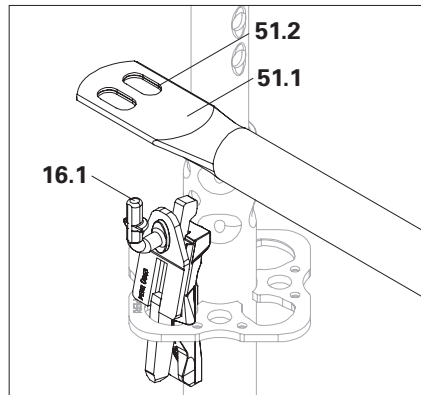

Fig. A5.08a
1. Turn the connecting pieces (51.1) of the guardrail post horizontally and place them on the Guardrail Hook EPW. (Fig. A5.08a)